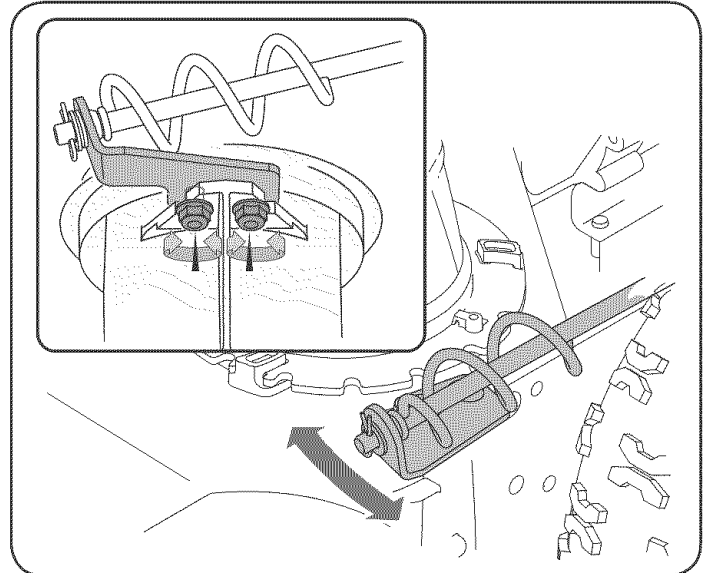

Figure 12
1. Loosen the two nuts which secure the chute bracket and reposition it slightly. See Figure 12.